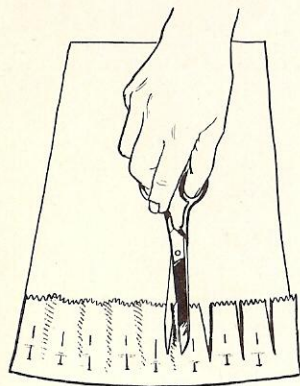

Fig. 21
- B. Distribute fullness of material evenly throughout the entire length of the hem and pin between ripples, as shown in Fig. 21.
- C. Cut away excess ripples of material with scissors, leaving pie-shaped cuts, as shown in Fig. 21.